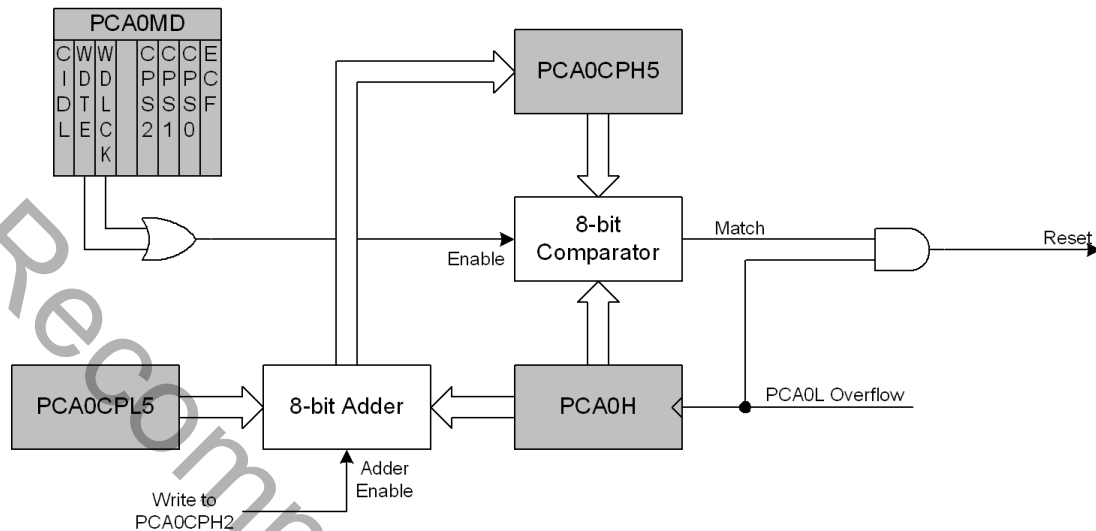

Figure 24.11. PCA Module 2 with Watchdog Timer Enabled
While the WDT is enabled, writes to the CR bit will not change the PCA counter state; the counter will run until the WDT is disabled. The PCA counter run control bit (CR) will read zero if the WDT is enabled but user software has not enabled the PCA counter. If a match occurs between PCA0CPH5 and PCA0H while the WDT is enabled, a reset will be generated. To prevent a WDT reset, the WDT may be updated with a write of any value to PCA0CPH5. Upon a PCA0CPH5 write, PCA0H plus the offset held in PCA0CPL5 is loaded into PCA0CPH5 (See Figure 24.11).